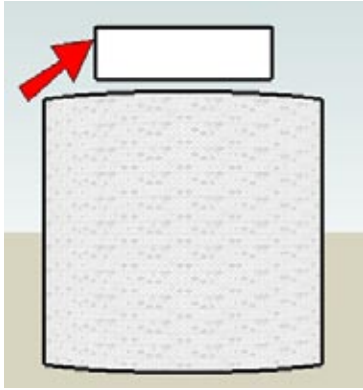

Figure 3-33
- Now make the shape for the window. In Front view, make a rectangle like the one in Figure 3-33. Keep it above the building for two reasons: to prevent faces from sticking and to avoid having to draw a rectangle on a curved face. This rectangle will become the base shape for the window component.